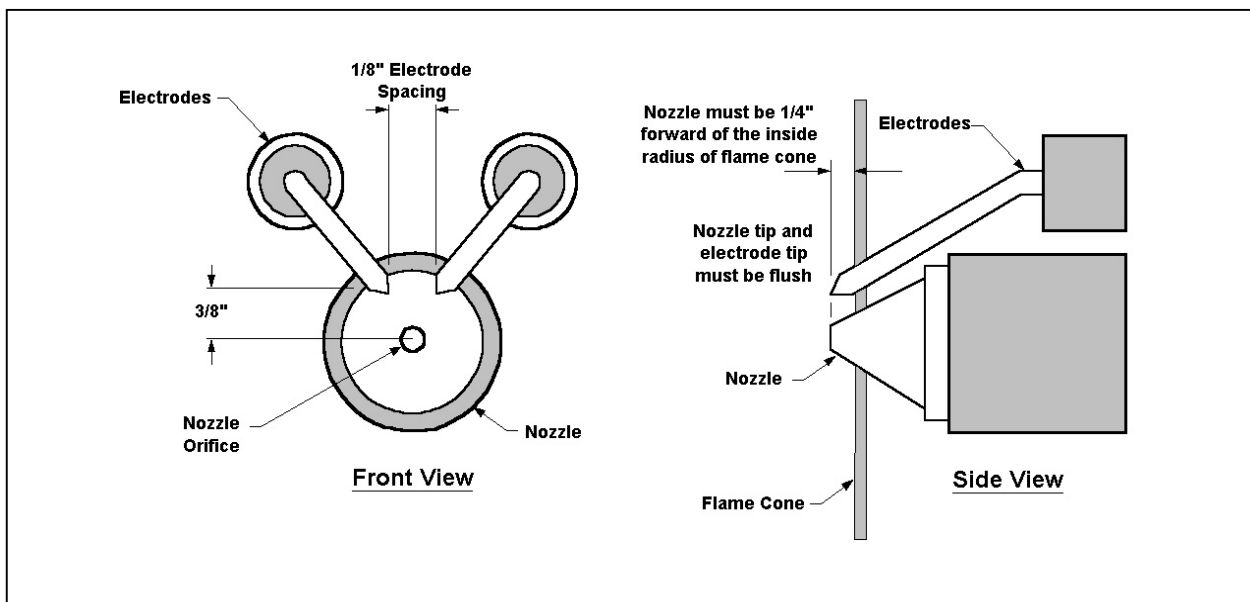

Figure 36 – ELECTRODE AND NOZZLE ADJUSTMENT DETAIL
- Waste Oil Burner electrodes are adjusted at time of manufacturing. However, they should be checked periodically and at time of installation to be sure they are set as noted in Figure 36.
- Nozzle position in relation to flame cone/burner tube is critical for low maintenance operation. Periodically check position as per Figure 36. **CAUTION: TURN OFF MAIN ELECTRICAL POWER BEFORE CHECKING OR ADJUSTING ELECTRODE SETTINGS.**